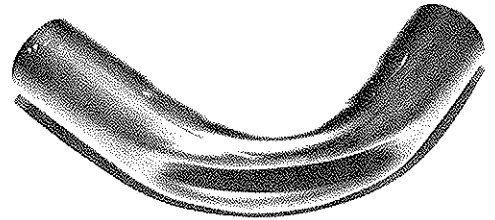

Figure 1
1. Flattening or collapsing of pipe on outside of bend (see Fig. 1).